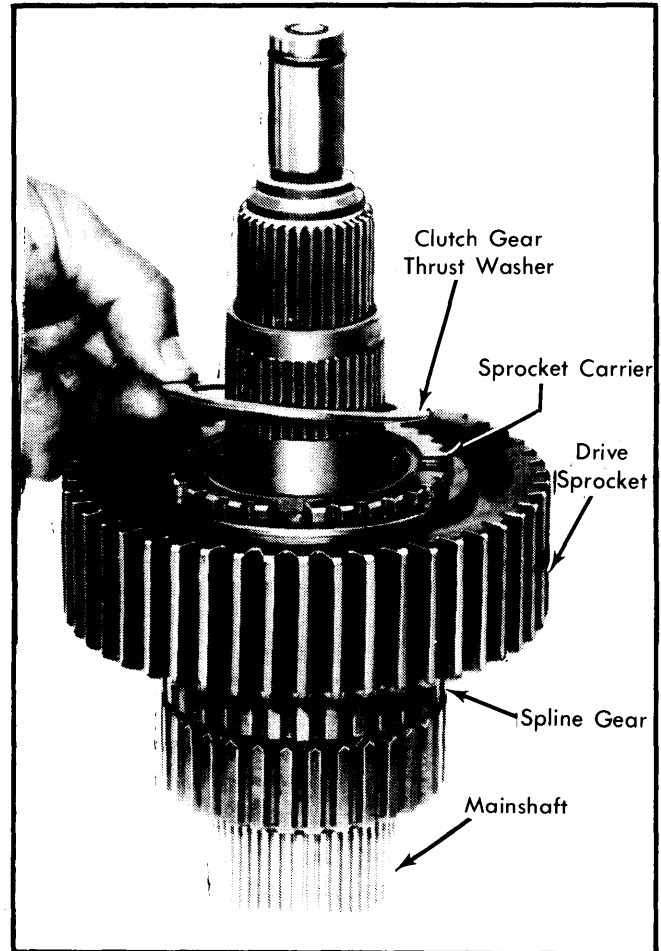

Fig. 7 Installing Clutch Gear Thrust Washer
5) Install assembled sprocket carrier and drive sprocket on mainshaft. Do not displace mainshaft bearings during installation. Install clutch gear thrust washer in mainshaft. Position washer on sprocket carrier. See Fig. 7.